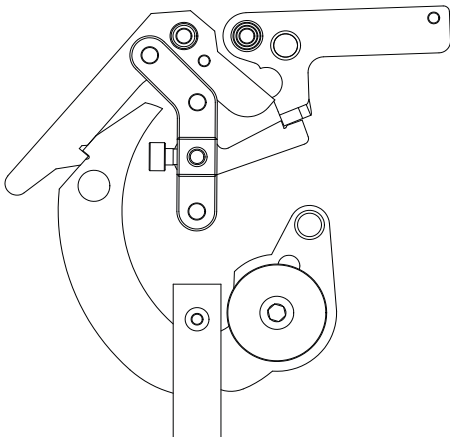

Figure 13. Related Condition of Two Stages
2. Relatch the two stages one at a time by using the handle. See Figure 13.
2. Relatch two stages one at a time by using the handle. See Figure 13.